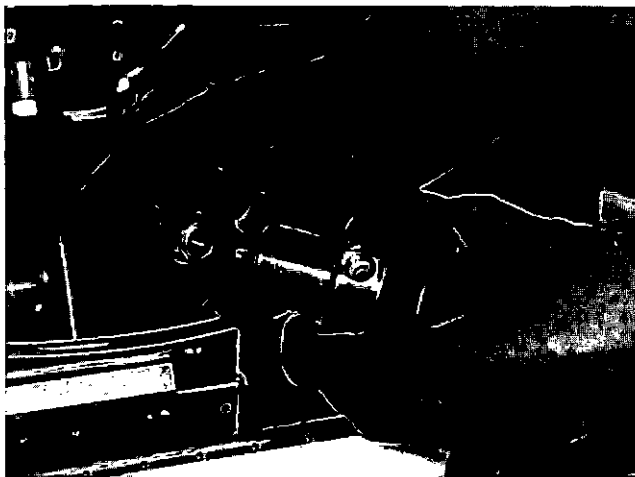

Fig. 4-34. Remove the nose cone end cap
4. If the pressure is not within limits, remove the nose cone end cap and adjust the pressure screw, Fig. 4-34.